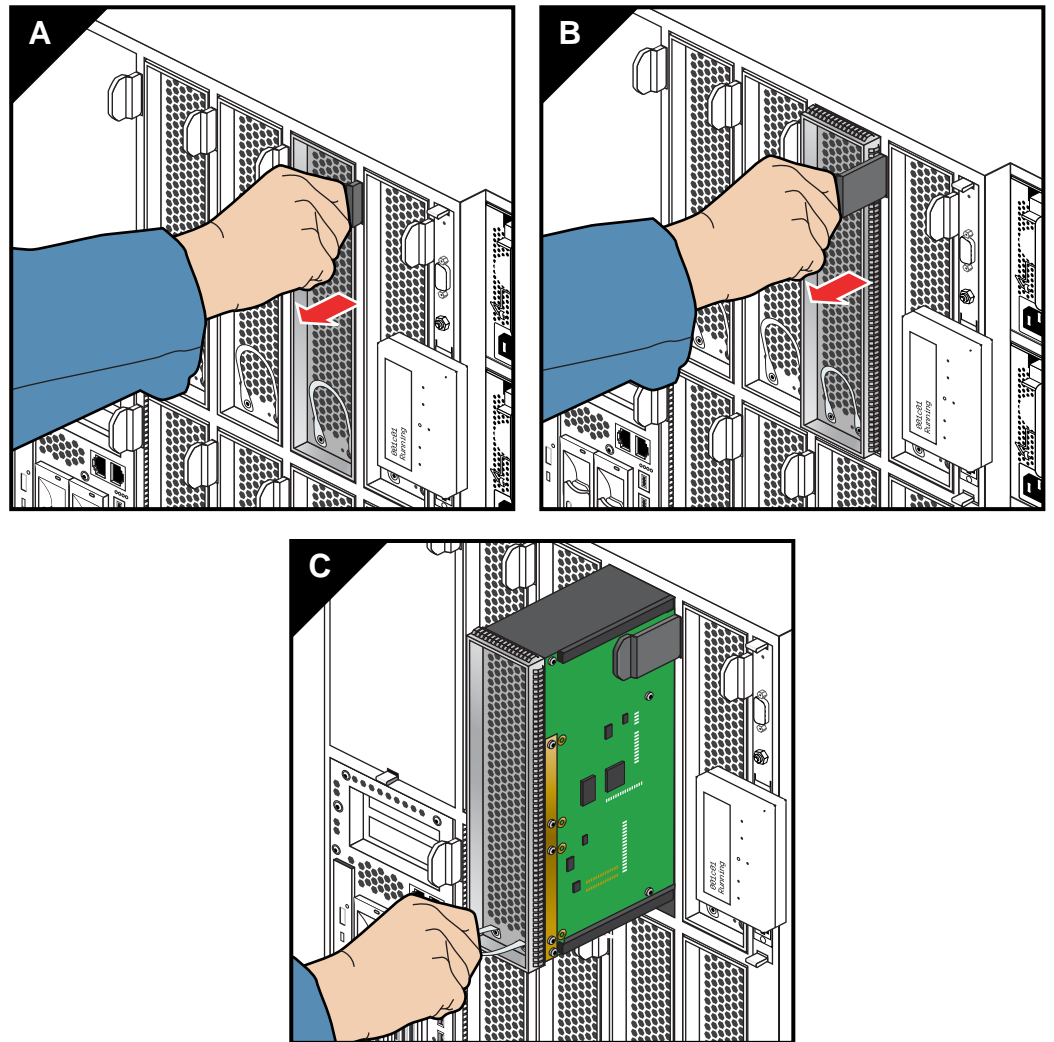

Figure 6-8 Removing a Compute/Memory Blade From the IRU
3. Pull the blade's retention tab outward until it is fully extended, see Figure 6-8.